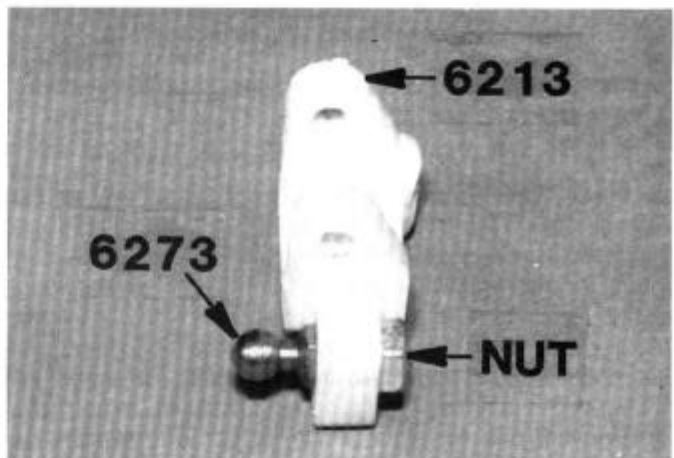

FIG. 9
□ **FIG. 9**—From Bag #6-1 screw the long ball end #6273 into the left hand front block carrier #6213 as shown, then screw on the locking nut. Assemble the right hand parts.